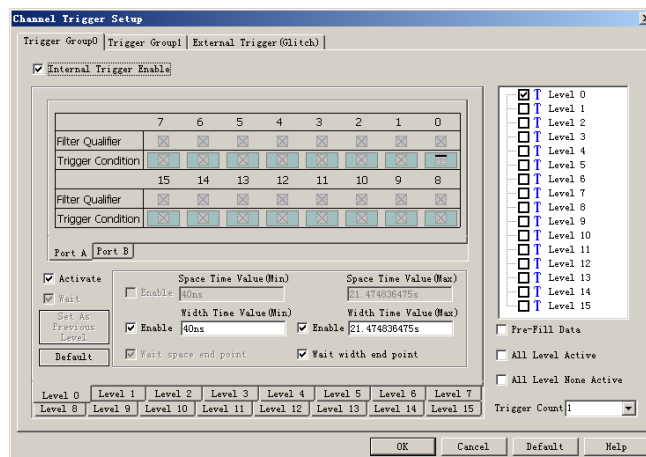

Fig4-20 – Channel Trigger Setup
- Step 1.** Click  on or click Channel **Trigger Setup** from the **Trigger** on the Menu Bar. The dialog box will appear as shown in Fig 4-20.